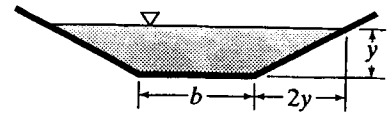

Figure P10.16
- 10.19 Refer to Fig. P10.16. (a) If the discharge in the canal ( $n = 0.028$ ) is to be  $6 \text{ m}^3/\text{s}$  while the depth  $y$  is  $1.8 \text{ m}$  and the velocity is not to exceed  $50 \text{ m}/\text{min}$ , what must be the minimum bottom width  $b$  and the maximum drop in elevation per km? (b) Compare this with the depth and bottom width for maximum efficiency when using the same side slopes, roughness, bed slope, and discharge.